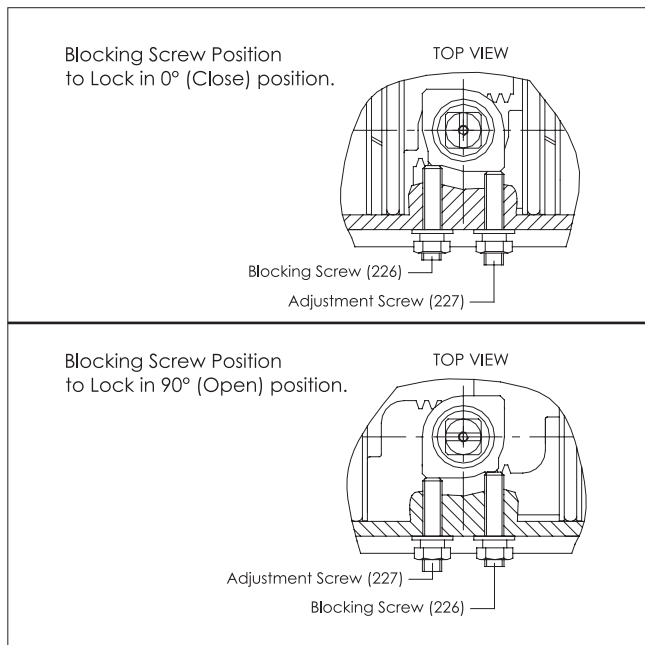

Figure 21.
- B. Insert on the Adjustment Screw (227) and on the Blocking Screw (226) the Special Nut (228), the Washer (03) and the O-ring (11), see (Figure 21).
- A. Before proceeding with the assembly of the Adjustment and Blocking Screws in the body, check the requested stop position. If the stop position is fully close (0°) or fully open (90°), **Figure 21**. Attention: when the screws are fitted, the actuator position must be $0^\circ \pm 2^\circ$ or $90^\circ \pm 2^\circ$.
- B. Insert the Blocking Screw (226) and the Adjustment Screw (227) into the Actuator Body until the desired lock position is achieved then tighten the Special Nut (228), see (Figure 21).